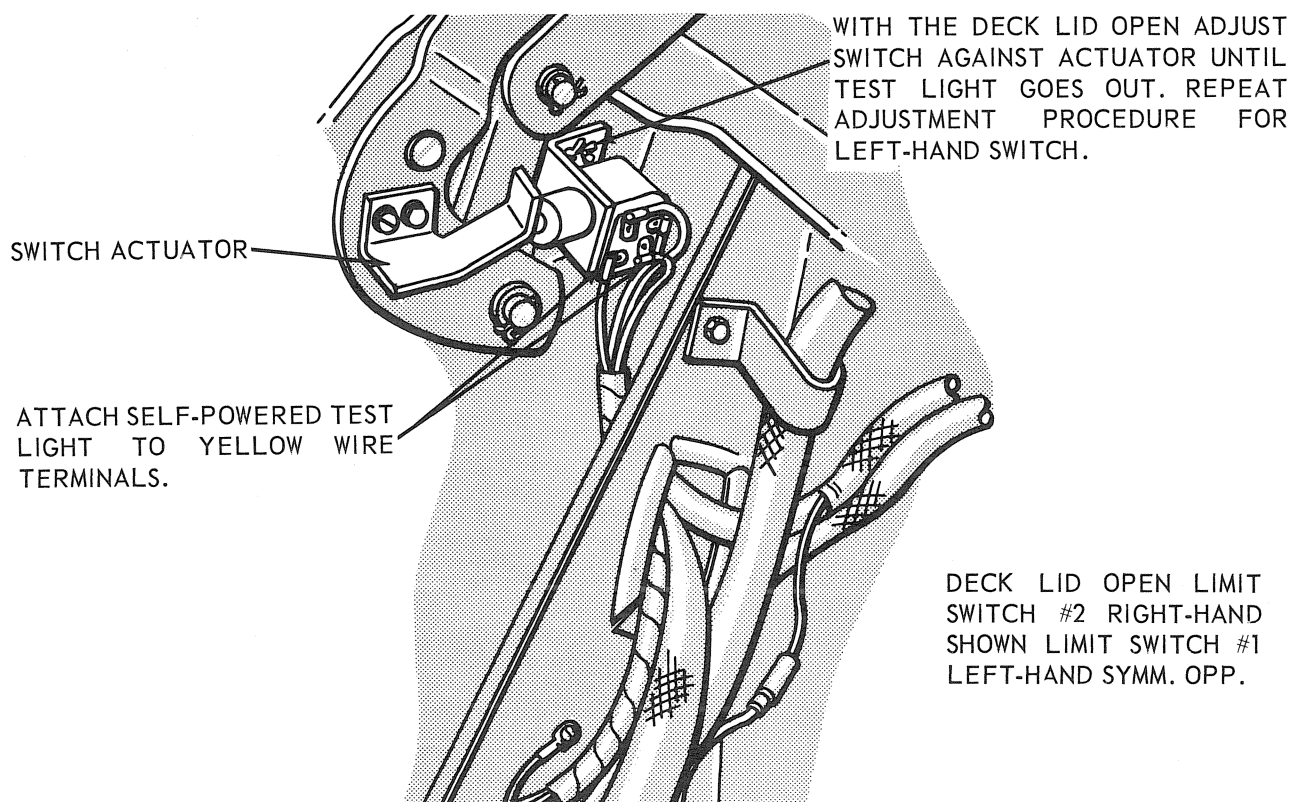

FIG. 2-18—Deck Lid Limit Switch No. 1 and No. 2 Adjustment
1. Deck Lid Limit Switches No. 1 and No. 2, Figure 2-18.